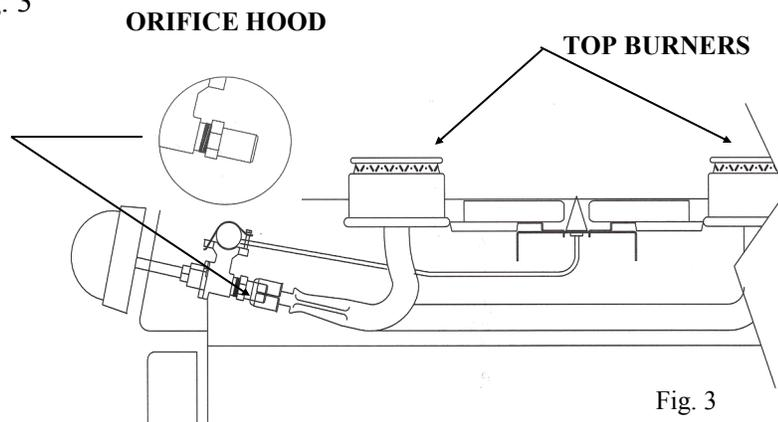

Fig. 3
1. Each top burner must be adjusted to the Natural setting. With a 1/2” open end wrench rotate the orifice hood clockwise two full turns on the valve. The orifice hood is the brass hood on the end of top burner valve. See Fig. 3